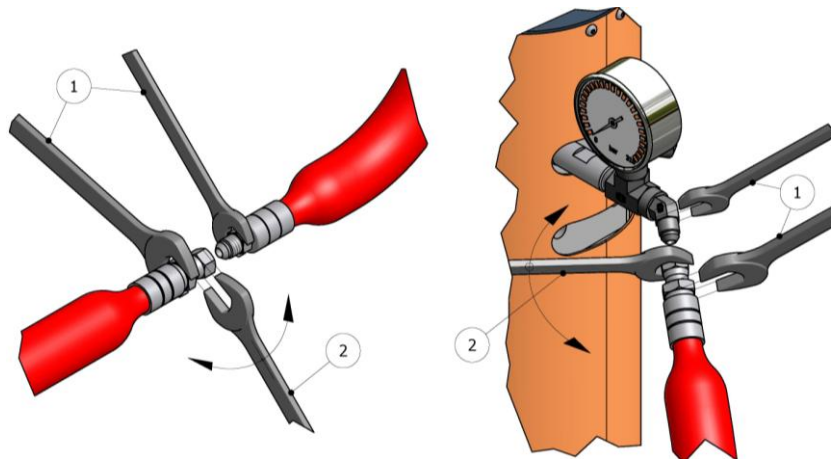

Figure 3. Hose coupling method
**WARNING!** To join hoses to each other, to the heaters, or to the gun, hold each hose end in place with a spanner (1), and with a third spanner tighten or loosen the coupling nut (2) as required (see Figure 3 18. These couplers should be tightened to a torque of 20 Nm.
**WARNING!** To join hoses to each other, to the heaters, or to the gun, hold each hose end in place with a spanner (1), and with a third spanner tighten or loosen the coupling nut (2) as required (see Figure 3 on p. 1718. These couplers should be tightened to a torque of 20 Nm.